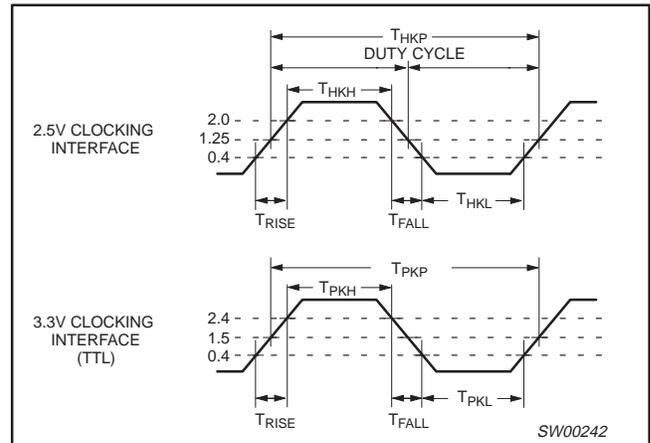

Figure 4. 2.5V/3.3V clock waveforms
- $T_{HKH}$  is measured at 2.0 V for 2.5 V outputs, 2.4 V for 3.3 V outputs as shown in Figure 4.
- $T_{HKL}$  is measured at 0.4 V for all outputs as shown in Figure 4.